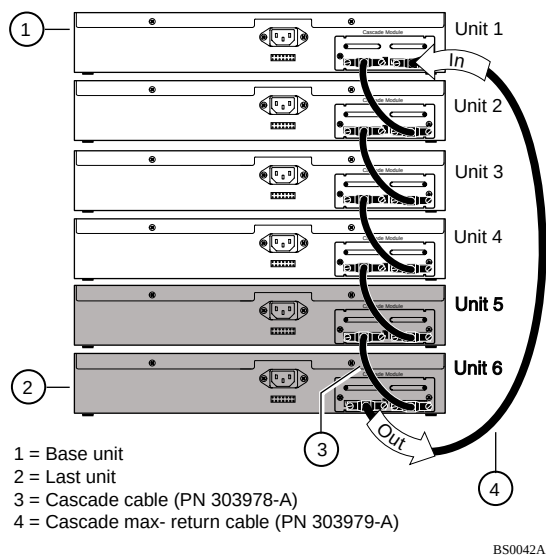

**Figure 15. Adding to End of Stack**
1. **Determine the position of the new units in the existing stack (Figure 15).**
For example, the shaded units (units 5 and 6) in Figure 15 show the two new units to be added to the stack. The new units are numbered as unit 5 and unit 6 because they are additions to the end of an existing four-unit stack.